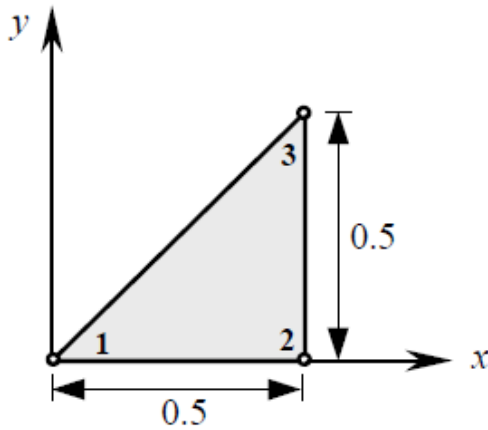
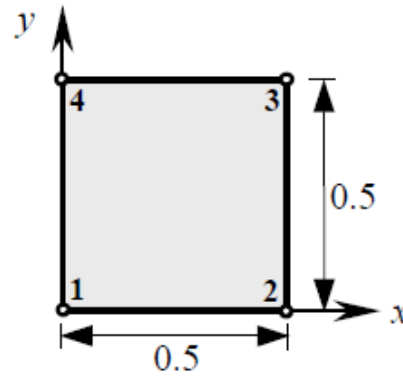

Figure Q1a
Figure Q1b
Q.1. The nodal displacement values (in mm) of the elements shown in **Figure Q1a** and **Figure Q1b** are $u_1 = 0.2645$, $u_2 = 0.2172$, $u_3 = 0.1800$ for the triangular element and $u_1 = 0.2173$, $u_3 = 0.1870$, $u_2 = u_4 = 0.2232$ for the rectangular element. Dimensions of the elements are in meters.